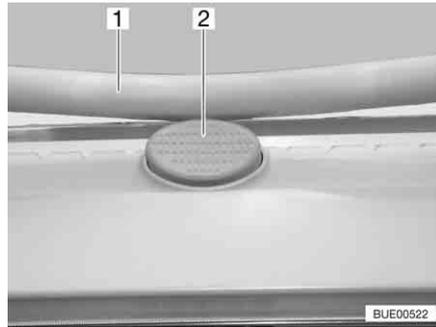

Fig. 90 Safety knob on the Heki skylight
- Press the safety knob (Fig. 90,2) and pull the bar (Fig. 90,1) down with both hands.
- Push the bar upwards with both hands until it is above the safety knob (Fig. 90,2).